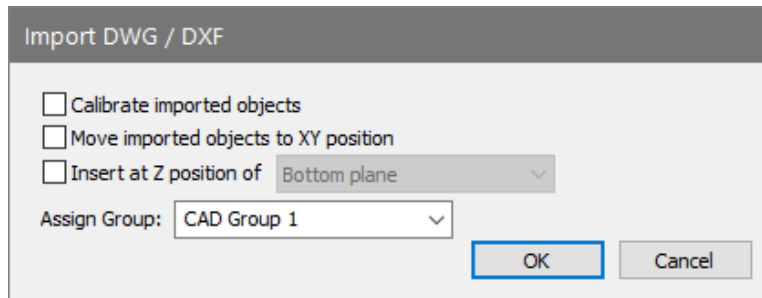

Figure 2-18
- Click on the *Open* button, this will open up the Import DWG/DXF window shown in **FIGURE 2-18**.